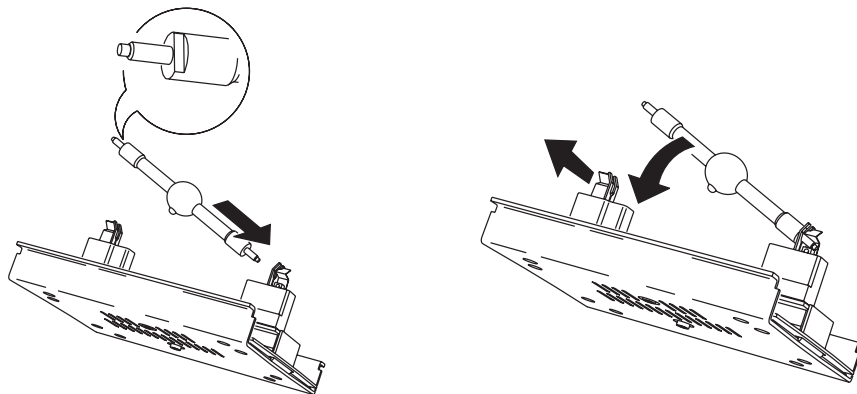

Figure 8: Lamp insertion
The ends of the lamp are profiled with special keys, as shown in Figure 8, to ensure proper installation. Do not use lamps with keys in a non-keyed SFc 10-4 socket.
- 5 See Figure 8. With the nipple on the bulb facing the back, insert the right end of the new lamp in the socket. Pull up on the left spring and snap the other end into place.